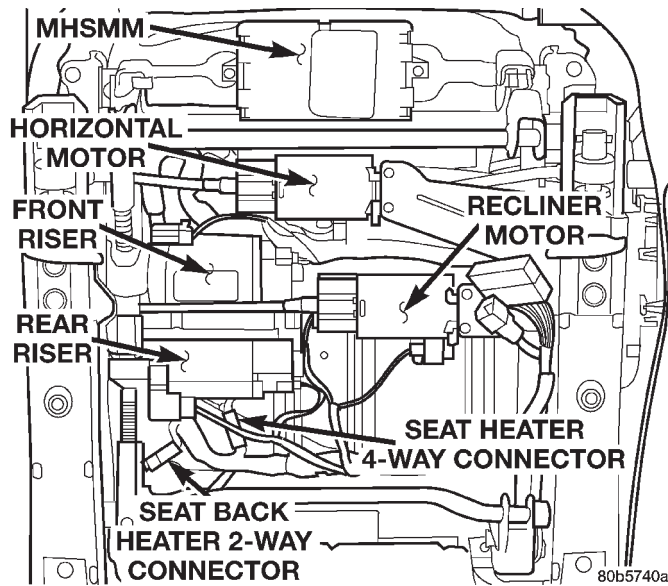

Fig. 3 Memory Heated Seat / Mirror Module Location
- (1) Open hood, disconnect and isolate the negative battery cable remote terminal from the remote battery post.
- (2) Remove two module attaching screws (Fig. 3).
- (3) Disconnect four module connectors.
- (4) Remove module from vehicle.